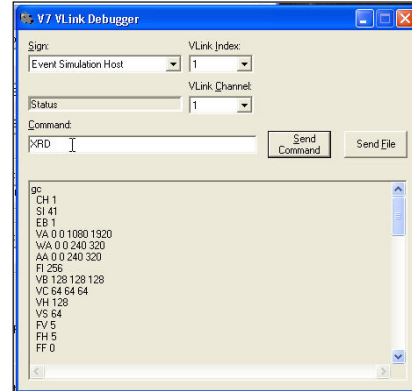

Figure 18: Entering “XRD” Command
2. In the VLink Debugger *Command* box, type “XRD,” which deletes all configuration settings and restarts the VIP. Refer to **Figure 18**.